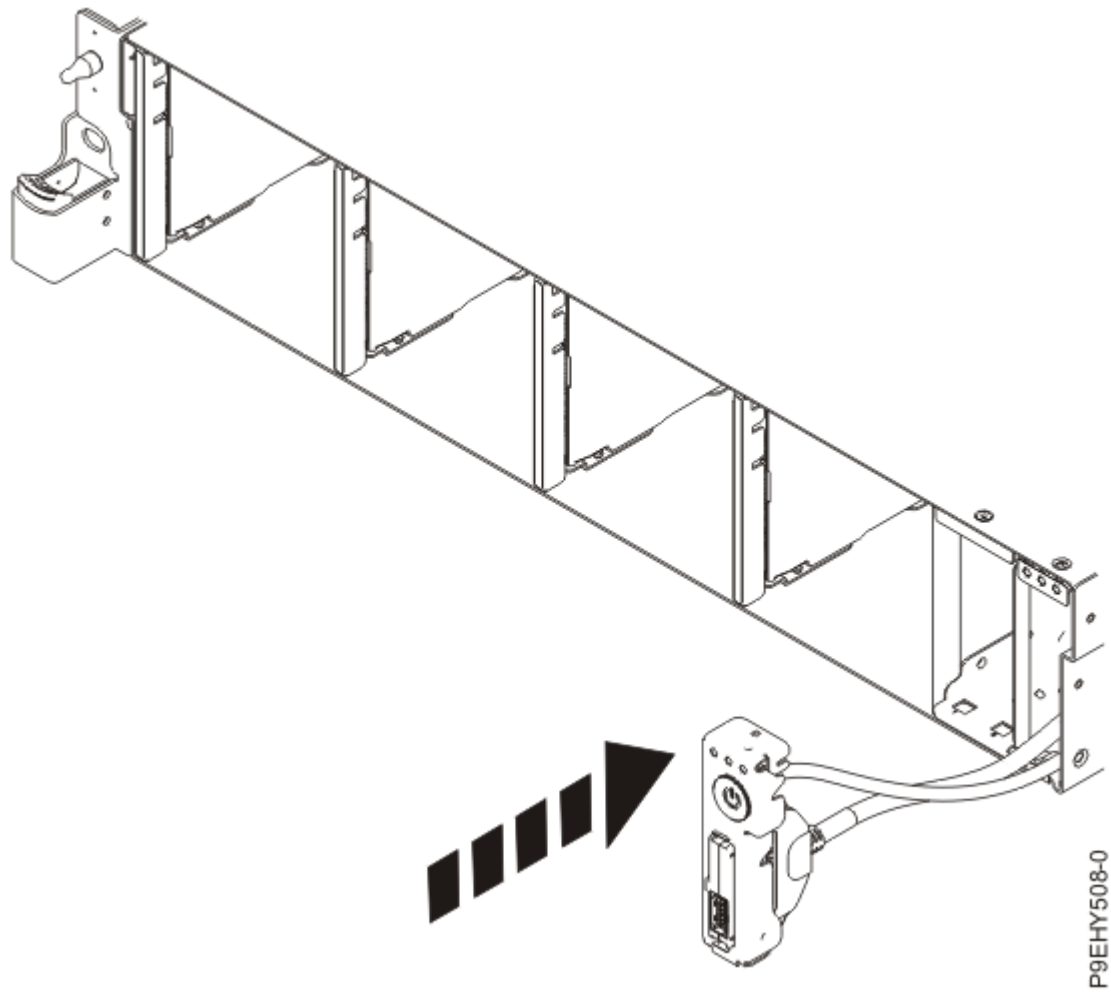

Figure 174. Replacing the front USB cable into the system backplane
4. Insert the USB cable and the power switch and cable into the system as shown in Figure 174 on page 190. Be careful to route the cables through to the system backplane.